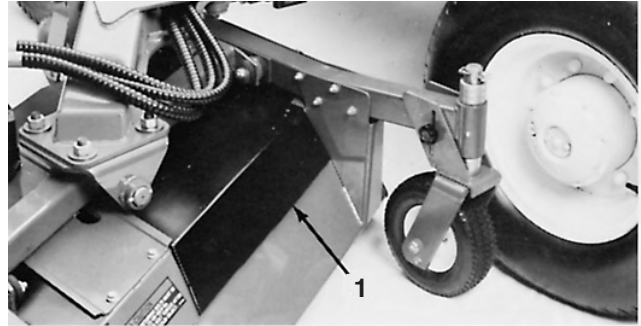

Figure 61
2. Remove the inner deck pulley cover (Fig. 61).